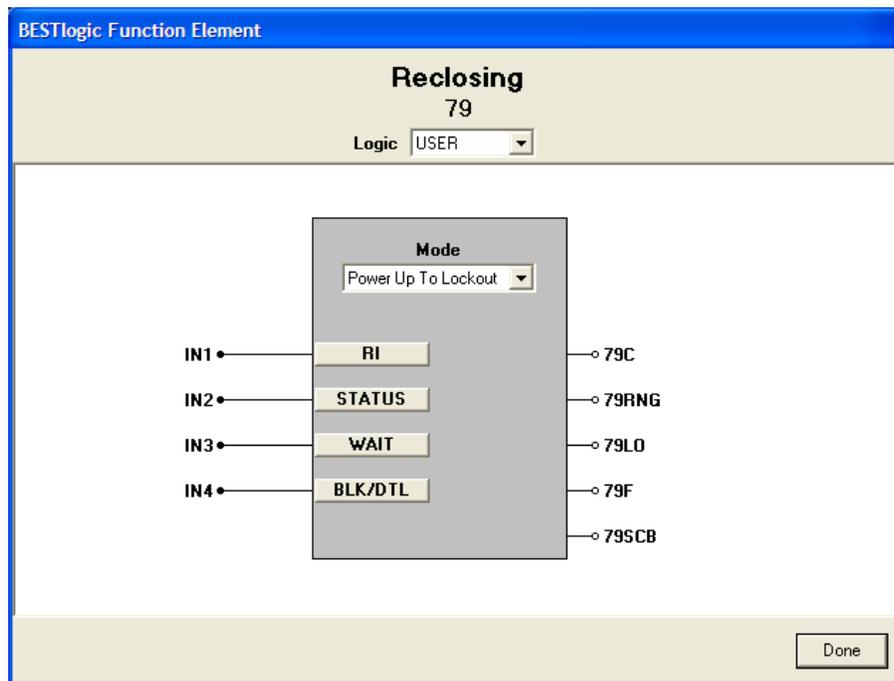

Figure 4-33. BESTlogic Function Element Screen, 79
BESTlogic settings are made from the *BESTlogic Function Element* screen in BESTCOMS. Figure 4-33 illustrates the BESTCOMS screen used to select BESTlogic settings for the reclosing element. To open the *BESTlogic Function Element* screen for Reclosing (79), select *Reclosing* from the *Screens* pull-down menu. Alternately, settings may be made using the SL-79 ASCII command.